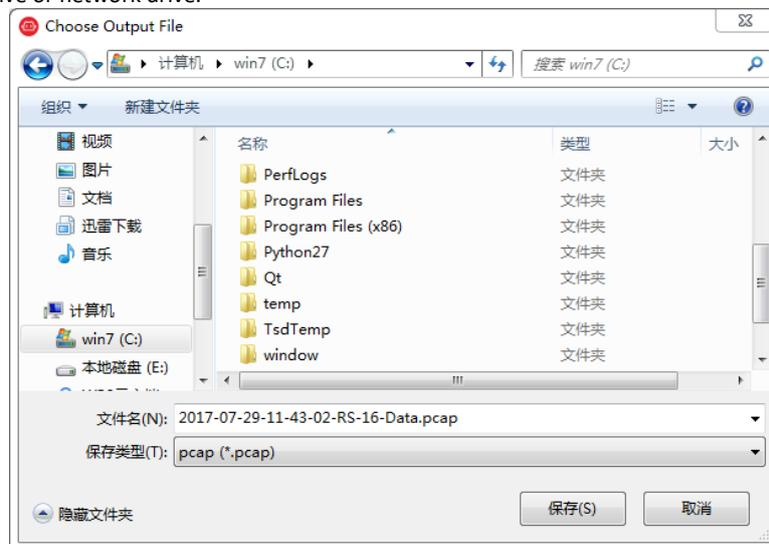

Figure C-5 RSVIEW Record Saving Dialog.
2. In the “Choose Output File” dialog that pops up, set the save path and file name, and then click the **Save (S)** button (Figure C-5). RSVIEW will start to write the packet file into the target pcap file.